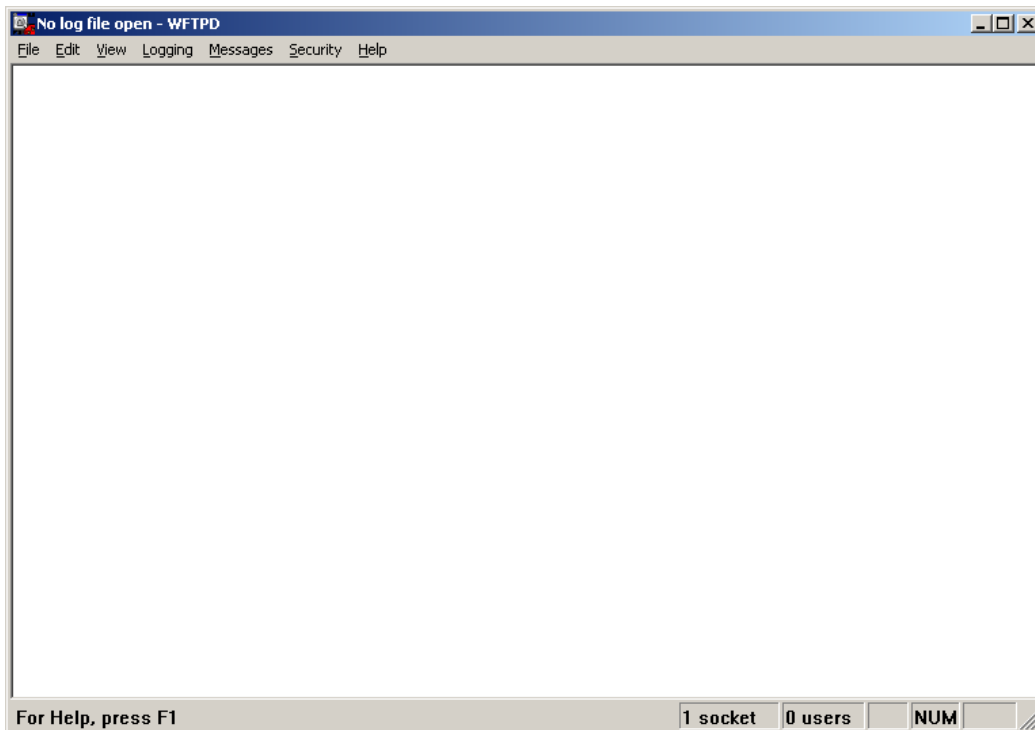

Fig 7.1 Interface
1. Run wftpd32.exe (FTP server software).Shown as fig 7.1